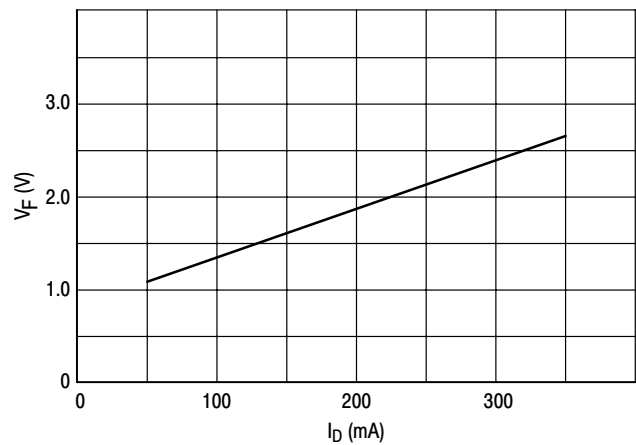
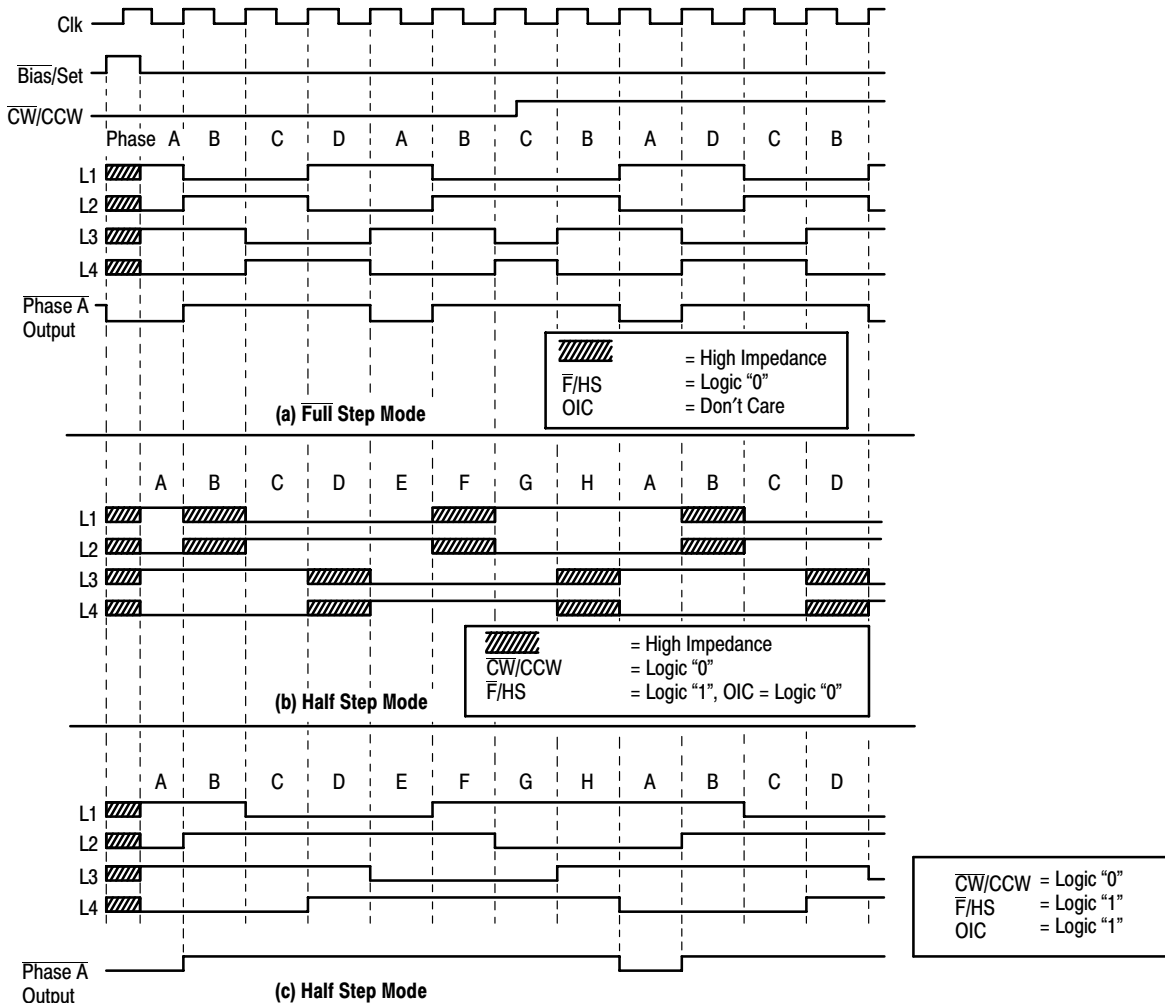

**Figure 5. Output Stages**
Figure 7. Output Sequence
The outputs (L1-L4) are high current outputs (see Figure 5), which when connected to a two-phase motor, provide two full-bridge configurations (L3 and L4 are not shown in Figure 5). The polarities applied to the motor coils depend on which transistor ( $Q_H$  or  $Q_L$ ) of each output is on, which in turn depends on the inputs and the decoding circuitry.
The maximum sink current available at the outputs is a function of the resistor connected between Pin 6 and ground (see section on  $\overline{Bias}/Set$  operation). Whenever the outputs are to be in a high impedance state, both transistors ( $Q_H$  and  $Q_L$  of Figure 5) of each output are off.
This pin allows for provision of a current path for the motor coil current during switching, in order to suppress back-EMF voltage spikes.  $V_D$  is normally connected to  $V_M$  (Pin 16) through a diode (zener or regular), a resistor, or directly. The peaks instantaneous voltage at the outputs must not exceed  $V_M$  by more than 6.0 V. The voltage drop across the internal clamping diodes must be included in this portion of the design (see Figure 6). Note the parasitic diodes (Figure 5) across each  $Q_L$  of each output provide for a complete circuit path for the switched current.
When this input is at a Logic “0” (<0.8 V), the outputs change a full step with each clock cycle, with the sequence direction depending on the  $\overline{CW/CCW}$  input. There are four steps ( $\overline{\text{Phase A}}, \overline{\text{B}}, \overline{\text{C}}, \overline{\text{D}}$ ) for each complete cycle of the sequencing logic. Current flows through both motor coils during each step, as shown in Figure 7.
When taken to a Logic “1” (>2.0 V), the outputs change a half step with each clock cycle, with the sequence direction depending on the  $\overline{CW/CCW}$  input. Eight steps ( $\overline{\text{Phase A}}$  to  $\overline{\text{H}}$ ) result for each complete cycle of the sequencing logic.  $\overline{\text{Phase A}}, \overline{\text{C}}, \overline{\text{E}}$  and  $\overline{\text{G}}$  correspond (in polarity) to  $\overline{\text{Phase A}}, \overline{\text{B}}, \overline{\text{C}},$  and  $\overline{\text{D}}$ , respectively, of the full step sequence.  $\overline{\text{Phase B}}, \overline{\text{D}}, \overline{\text{F}}$  and  $\overline{\text{H}}$  provide current to one motor coil, while de-energizing the other coil. The condition of the outputs of the de-energized coil depends on the OIC input, see Figure 7 timing diagram.
(Figure 7) and this input is at a Logic “0” (<0.8 V), the two outputs to the de-energized coil are in a high impedance condition —  $Q_L$  and  $Q_H$  of both outputs (Figure 5) are off. When this input is at a Logic “1” (>2.0 V), a low impedance output is provided to the de-energized coil as both outputs have  $Q_H$  on ( $Q_L$  off). To complete the low impedance path requires connecting  $V_D$  to  $V_M$  as described elsewhere in this data sheet.
a) The maximum output sink current is determined by the base drive current supplied to the lower transistors ( $Q_{LS}$  of Figure 5) of each output, which in turn, is a function of  $I_{BS}$ . The appropriate value of  $I_{BS}$  is determined by: